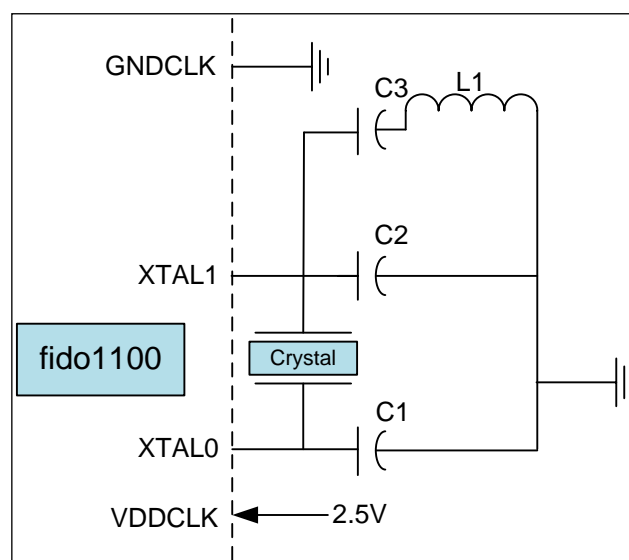

Figure 13. Crystal Oscillator Third Overtone Off-Chip Components
- System Configuration (fundamental tone)—Crystal across XTAL0/XTAL1 (see Figure 13) and 20-pF load caps to ground.